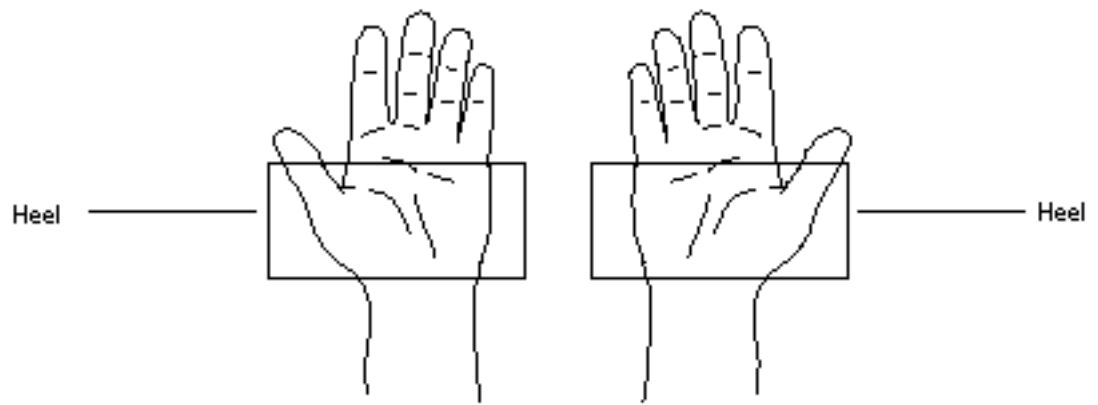
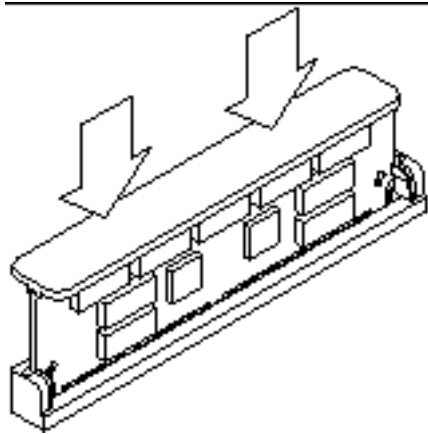

Figure 5-39 Heel of Each Hand
Figure 5-40 Using the Insertion Tool
- See Figure 5-39 and Figure 5-40.